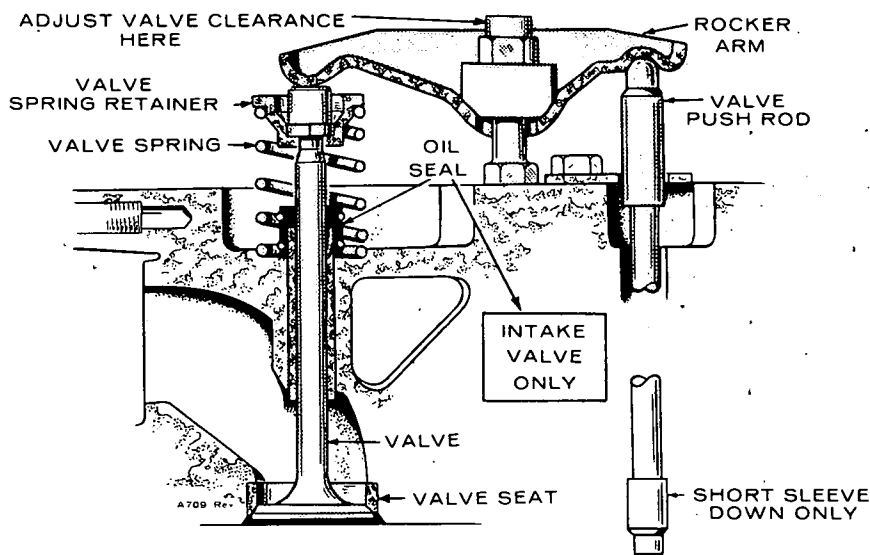

FIGURE 48. VALVE TRAIN
6. Using a valve spring compressor, disassemble the valve assemblies. See Figure 48.